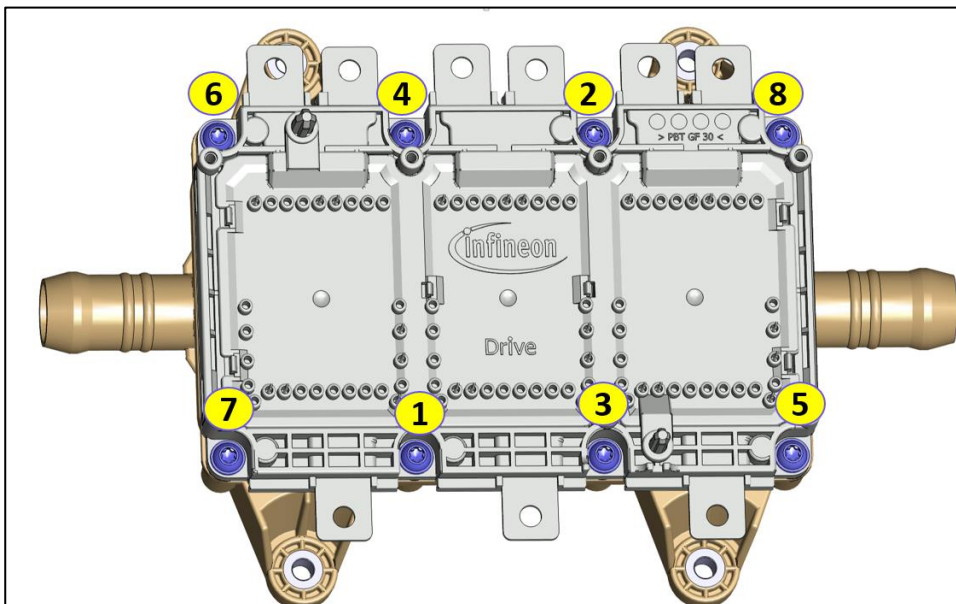

Figure 6: Sequence of tightening the screws in two steps (all screws with 1 Nm - then all screws with 4 Nm).
- A metric screw incl. washer of size M5 should be used to fasten the assembly to a test table or carrier plate. (Figure 6)